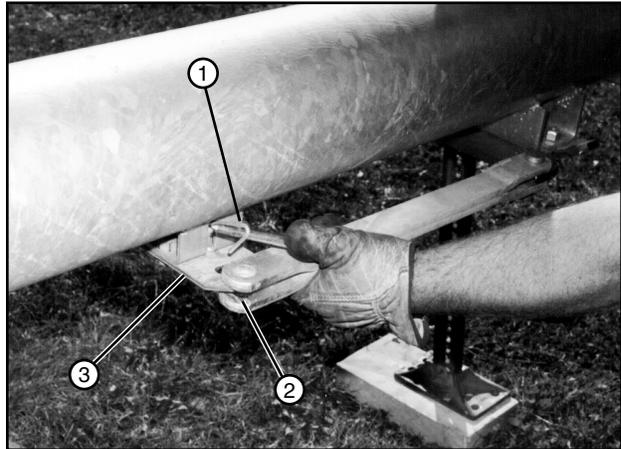

Figure 64-1 1. Carrier Spring 2. Tow Link Bar 3. Tow Link Carrier
1. Lift the carrier spring and release the tow link bar from the tow link carrier. See Figure 64-1.